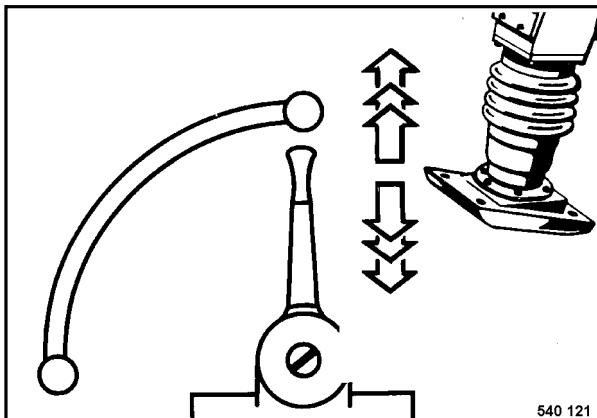

Fig. 1
- Set the throttle lever (Fig. 1) to "MAX"-position.